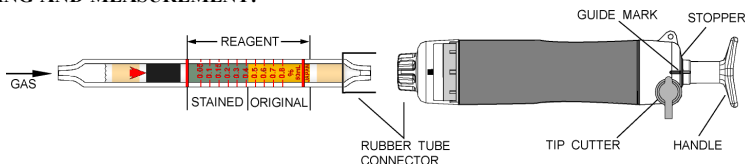

Fig.1
- ② Insert the detector tube into the aspirating pump securely as shown in Fig.1. (Arrow mark shall point to the pump.)
- ③ Align the guide marks on the shaft and stopper of the aspirating pump.
- ④ Pull the handle at a 1/2 stroke (to 50mL line) until it locks and wait for 0.5 minutes or until the completion of sampling is confirmed with the flow indicator of the pump. (See descriptions about the flow indicator in the instruction manual of the pump.)
- ⑤ On completion of sampling, read the scale at the maximum point of the stained layer.